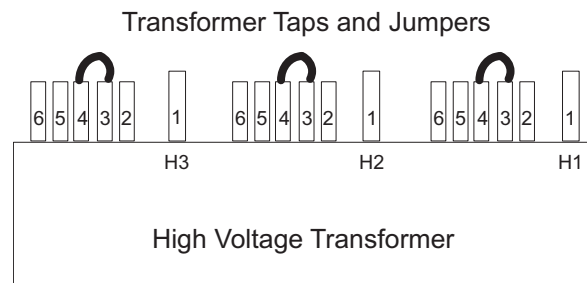

Figure 4-20 PDU Tap Positions (Rear)
- 2.) After you determine the nearest nominal line, verify the tap connections match (refer to Table 4-1 and Figure 4-20 for tap locations).